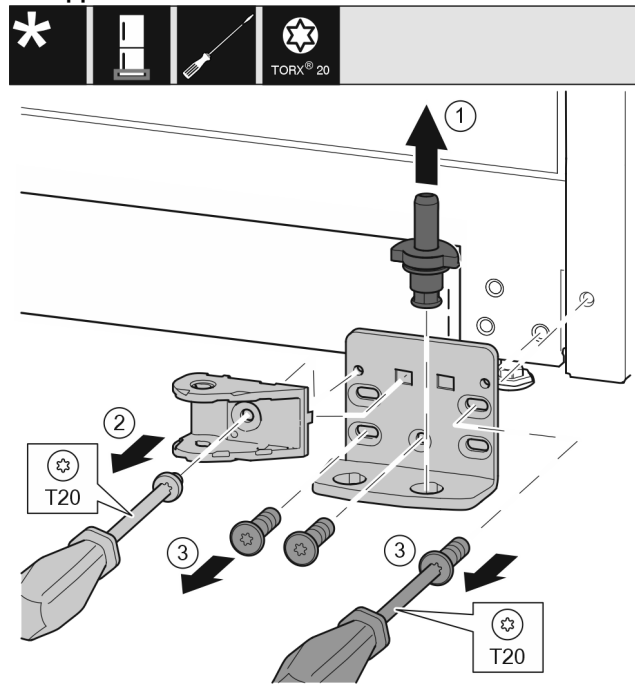

Fig. 34 \*
- ▶ Lift the bearing pin completely upward and remove it. Fig. 34 (1)\*
- ▶ Remove the screw with the T20 screwdriver and take off the soft close connection. Fig. 34 (2)
- ▶ Remove the screws with the T20 screwdriver and take off the bearing bracket. Fig. 34 (3)\*